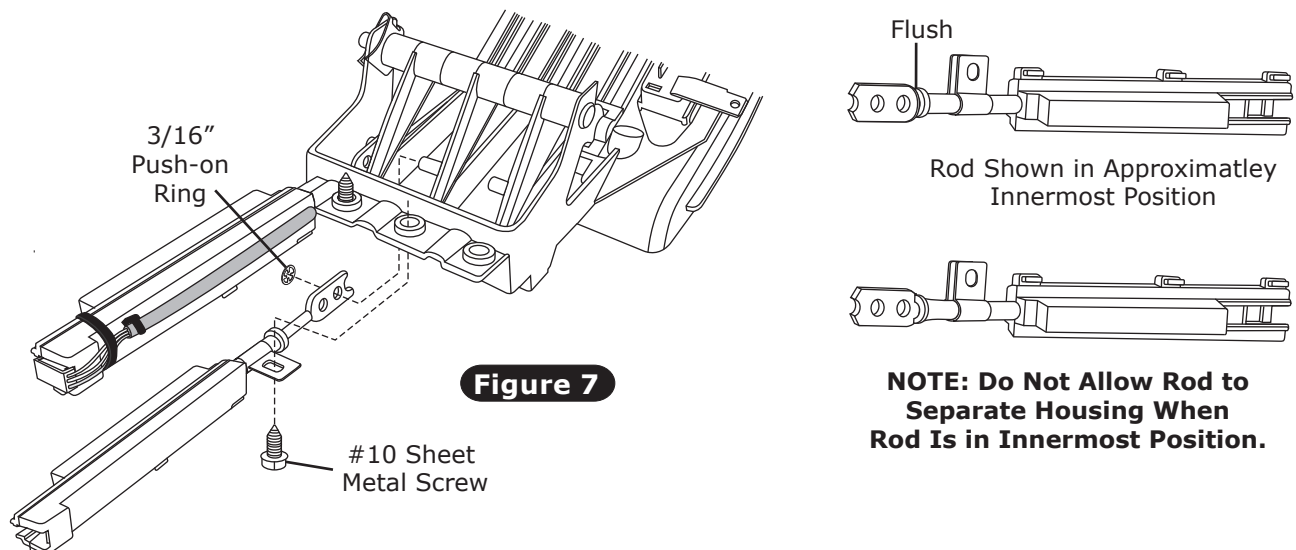

Figure 7
1. Install cable converter assembly onto the Dash/Floor/Defrost lever (See Figure 7, below).
2. Install cable converter lever push rod onto OEM cable mounting stud on lever (See Figure 7, below).
3. Secure the cable converter assembly onto OEM control panel using a #10 x 1/2" sheet metal screw as shown in Figure 7, below.
4. Since the cable converter assembly can slide back and forth in the clamp before the screw is tightened, position the cable converter assembly such that the flat part of the rod is as close to flush as possible with the end of housing at the lever's innermost position (See Figure 7, below).
5. Secure cable converter lever push rod onto OEM cable mounting stud using a 3/16" push-on ring as shown in Figure 7, below.